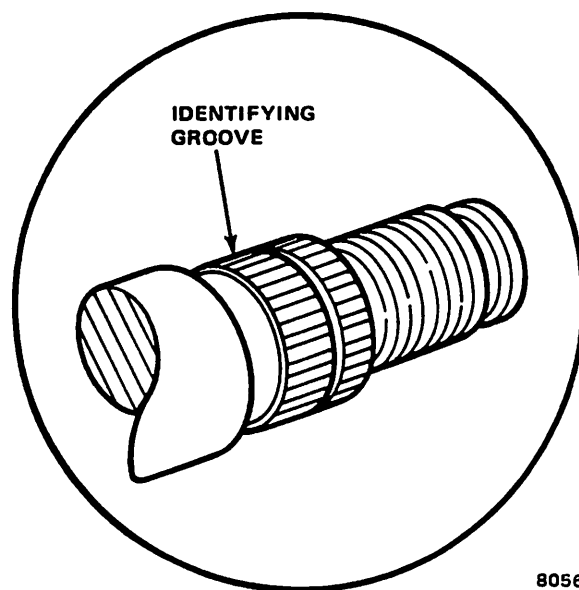

Fig. 2J-2 Metric Steering Shaft Identification
**CAUTION:** Some steering shafts have metric steering wheel nut threads. Inspect and identify the shaft thread type before installing a replacement nut. Metric shafts have an identifying groove in the steering wheel splines (fig. 2J-2). American thread shafts do not have this groove.